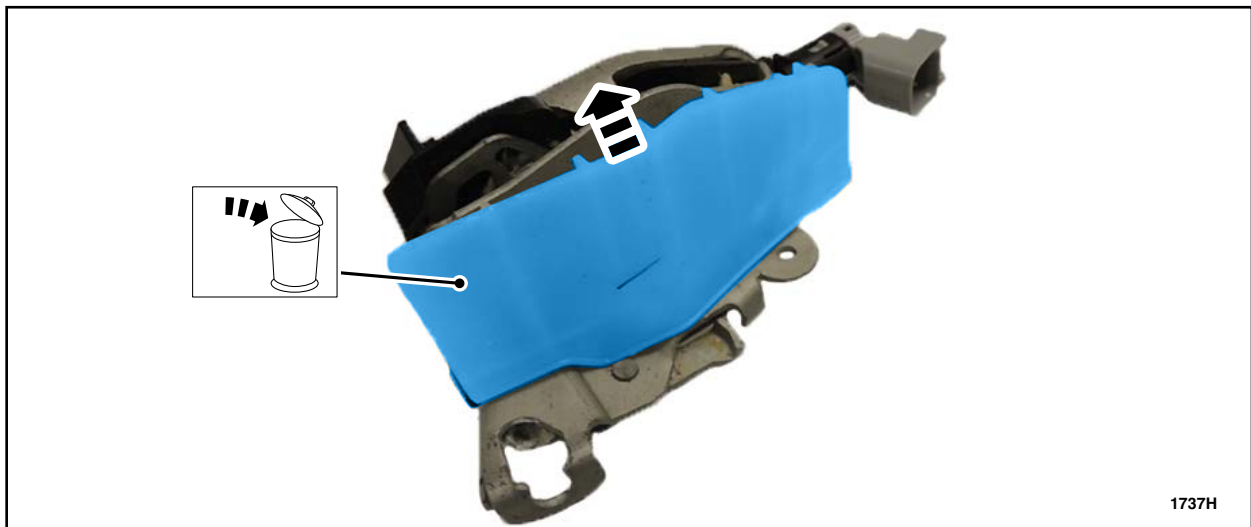

FIGURE 32
NOTE: Some F-150 SuperCab vehicles may be equipped with a smaller water shield than what is being installed in this safety recall. The smaller shields must be removed and replaced. See Figure 32.
6. If equipped with small water shields, remove and discard the existing lower door latch water shields. See Figure 32.